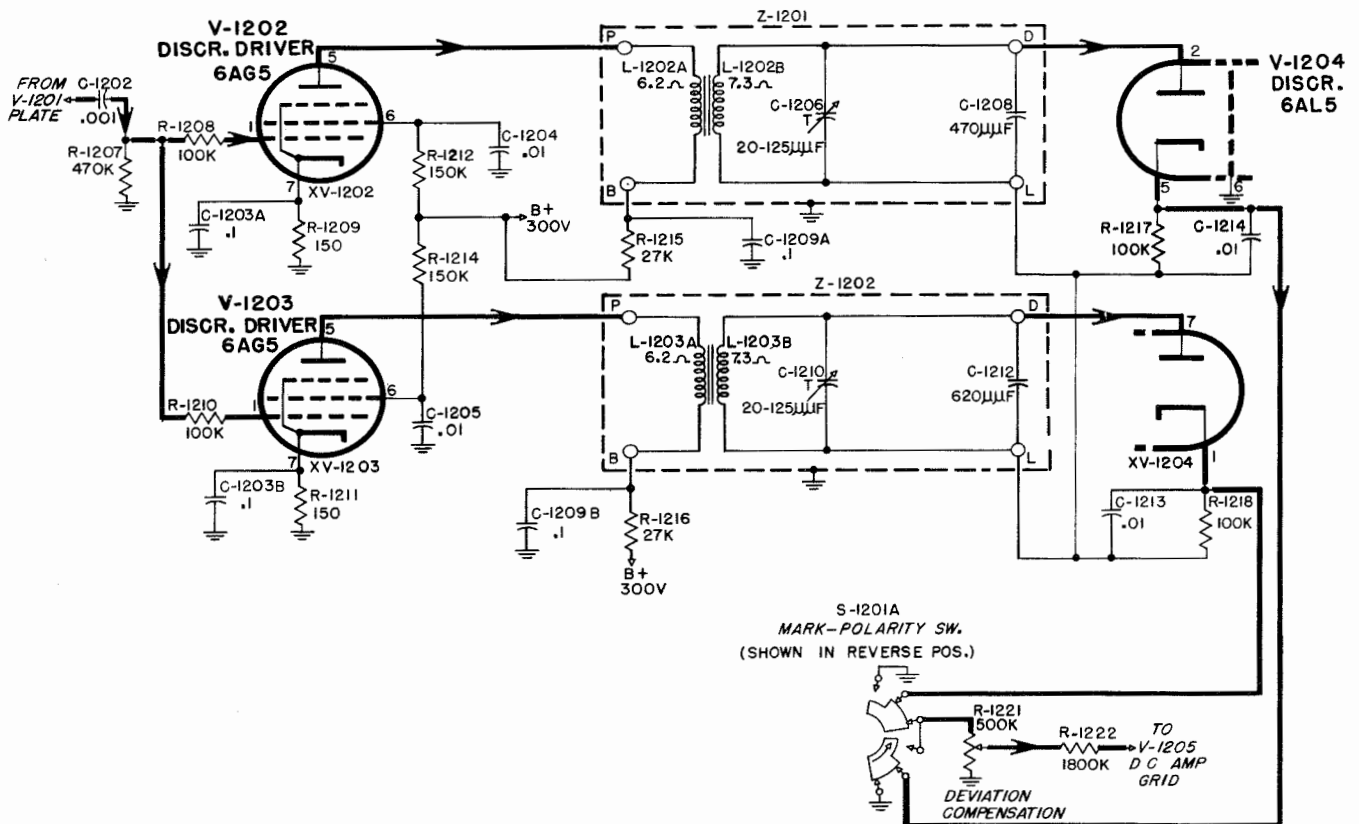

Figure 2-40. Discriminator Drivers V-1202, V-1203 and Discriminator V-1204, Simplified Schematic Diagram
(2) DISCRIMINATOR DRIVERS V-1202, V-1203 AND DISCRIMINATOR V-1204 (CV-127/FRR-24). (See Figure 2-40).—The constant amplitude output signal of limiter V-1201 is connected across grid load resistor R-1207 of the discriminator drivers V-1202 and V-1203 through coupling capacitor C-1202. Resistors R-1208 and R-1210 connected in the grid circuits of V-1202 and V-1203 are utilized as parasitic suppressors. Cathode bias for these two tubes is obtained through cathode resistors R-1209 and R-1211 which are bypassed by capacitors C-1203A and C-1203B. Screen voltage for V-1202 is provided through resistor R-1212 which is bypassed by capacitor C-1204. Screen voltage for V-1203 is provided through resistor R-1214 which is bypassed by capacitor C-1205. Each discriminator driver tube has a tuned circuit connected in its plate circuit whose secondary winding is connected to one of the diode sections of the discriminator tube V-1204, a type 6AL5 dual diode. Plate voltage for the discriminator driver tubes is obtained through the primary windings of these tuned circuits. The discriminator tuned circuits Z-1201 and Z-1202 are detuned approximately 3 kc. from the 50-kc. carrier frequency. One tuned circuit is tuned low-